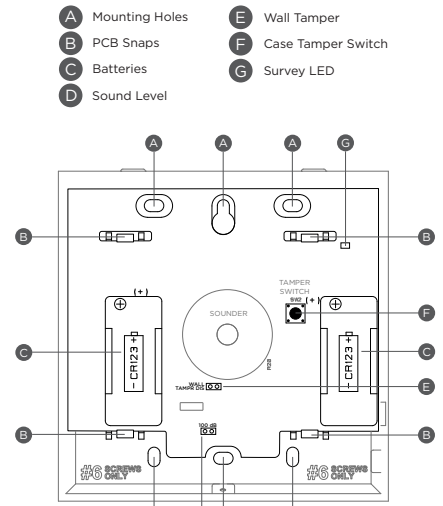

Figure 2: 1135INT Details
Observe polarity and install both CR123 batteries, For the battery holder location, refer to Figure 2.
2. Remove the old battery and dispose of it properly. See Figure 2 for battery location.